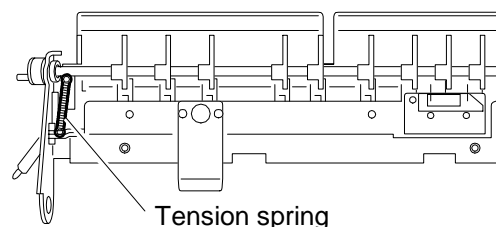

Fig. 10
- 9) Remove the 1 tension spring from the flapper assembly. (Fig. 10)